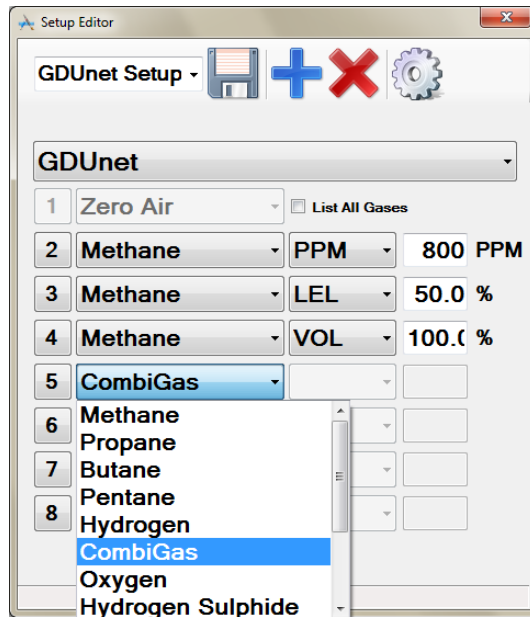

Fig. 3-11 CombiGas Selection
1. Select CombiGas, as illustrated in Fig. 3-11.